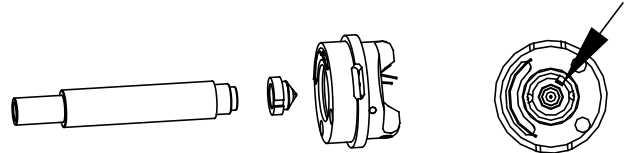

Figure 42c: Spray Tip Carbide Installation
4. Locate the female opening of the tip holder on the male portion of the 79642-00 tool as shown in 42c. Locate the tip holder in the air cap lining up the slot in the tip holder with the pin in the air cap (see figure 42c). With a light tap to the tool, the tip holder will snap in place. Remove the 79642-00 tool from the assembly.